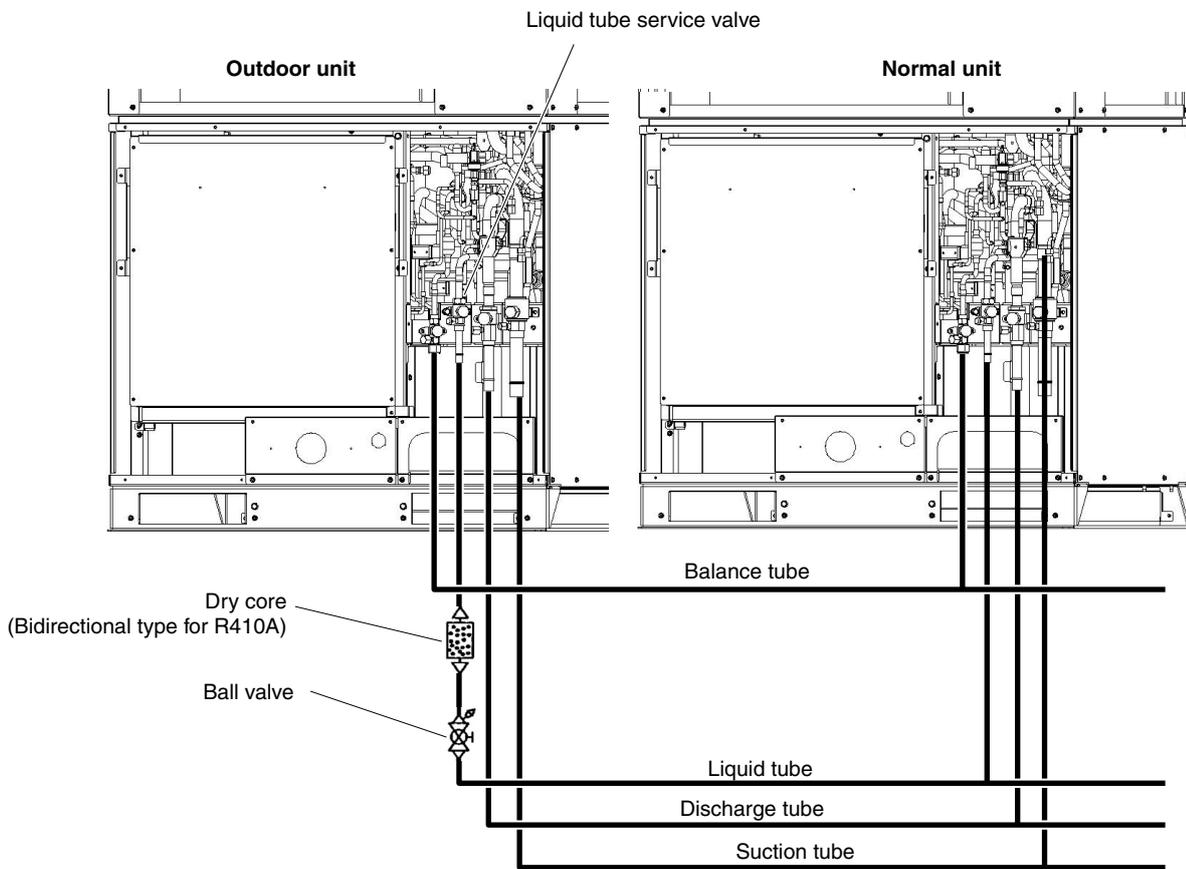

Fig. 19
- (5) As shown in Fig. 19, disconnect the tube that runs from the liquid tube valve to the ball valve on all outdoor units where dry cores will be attached. Then attach the dry cores.
- (6) At all outdoor units where dry cores are attached, pressurize with 3.3 MPa of nitrogen from the liquid tube service port and check for leaks.
- (7) After evacuating all nitrogen gas from the tubing, apply vacuum from the liquid tube service port to all outdoor units where dry cores are attached until the pressure is -101kPa (5 Torr) or less.
- (8) Fully open the liquid tube valve and ball valve on all outdoor units where dry cores are attached.
- (9) Operate all outdoor units for approximately 3 hours (in either Heating or Cooling mode or mixed Cooling and Heating mode).
- (10) Follow the above procedure, and replace all dry cores with new dry cores.
- (11) Operate all outdoor units for approximately 20 minutes (in either Heating or Cooling mode or mixed Cooling and Heating mode).
- (12) Follow the instructions in “3. Discharging Compressor Oil” and drain a small amount of the oil from the oil separators of all outdoor units where dry cores are attached. Check the color phase, odor, and other characteristics.
- (13) If the results show that dry core cleaning is still necessary (for example, a color phase of 4.0 or higher), return to Step 11 and repeat until the results are normal (including a color phase of 3.5 or less).
- (1) Refer to “Refrigerant recovery procedures (2) for indoor unit with no ball valve” under “5-2. Refrigerant Recovery Procedures (Indoor Unit).” Perform pump down of the refrigerant from all indoor units and inter-unit tubing to the outdoor unit side.
- (2) Cut the liquid (narrow) tube at all outdoor units where dry cores will be attached, then attach the dry cores and ball valves as shown in Fig. 19.
- (3) For the next steps, refer to (6) – (17) in **(A)** on the previous page.